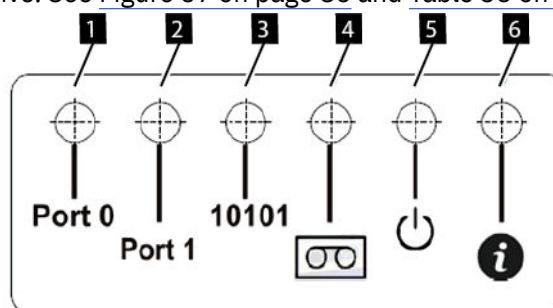

Figure 57. Drive sled indicators
3. On the back of each tape drive. See Figure 57 on page 86 and Table 35 on page 86.